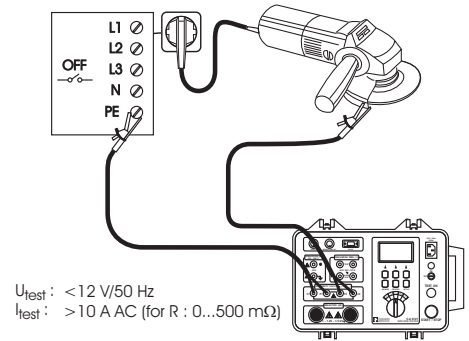

Fig.14. Connection of the test leads
3. Connect the test leads to the instrument and to the tested instrument in accordance with figure 14.